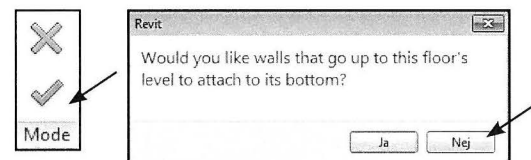

Fig. 10.55.
- Klik *Finish Edit Mode* (Fig. 10.55).